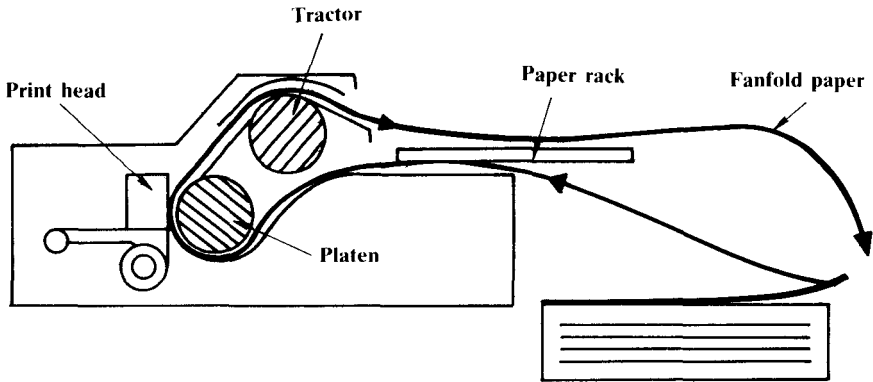

Figure 9. Fanfold Paper Path
11. Replace the paper rack and the printer cover. Proper paper flow will be obtained if you attach the paper rack and lay it down flat with the paper feeding underneath it into the Printer (Figure 9).